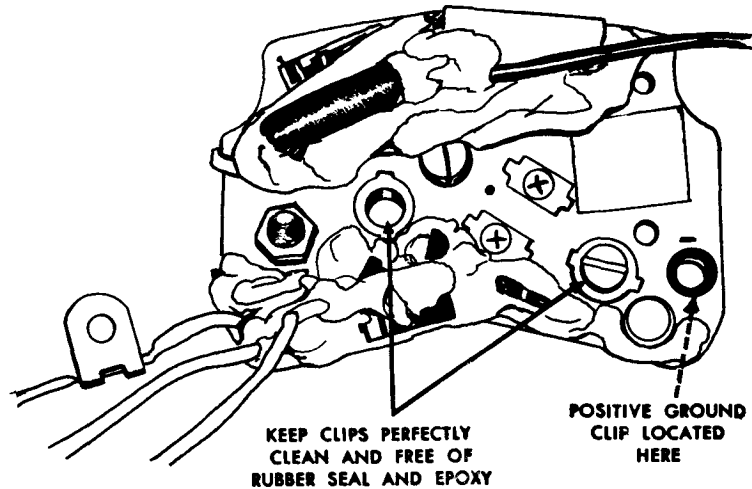

Figure 14—Rubber Seal Applied. Typical Regulator Shown
3. Apply sealing compound as shown in Figure 14 around components using Dow Chemical RTV Silastic 732 silicone rubber seal or equivalent, available at hardware, drug and paint stores. Keep metal clips perfectly clean and free of rubber seal.
- H. Apply sealing compound as shown in Figure 14 around components using Dow Chemical RTV Silastic 732 silicone rubber seal or equivalent, available at hardware, drug and paint stores. Keep metal clips perfectly clean and free of rubber seal.